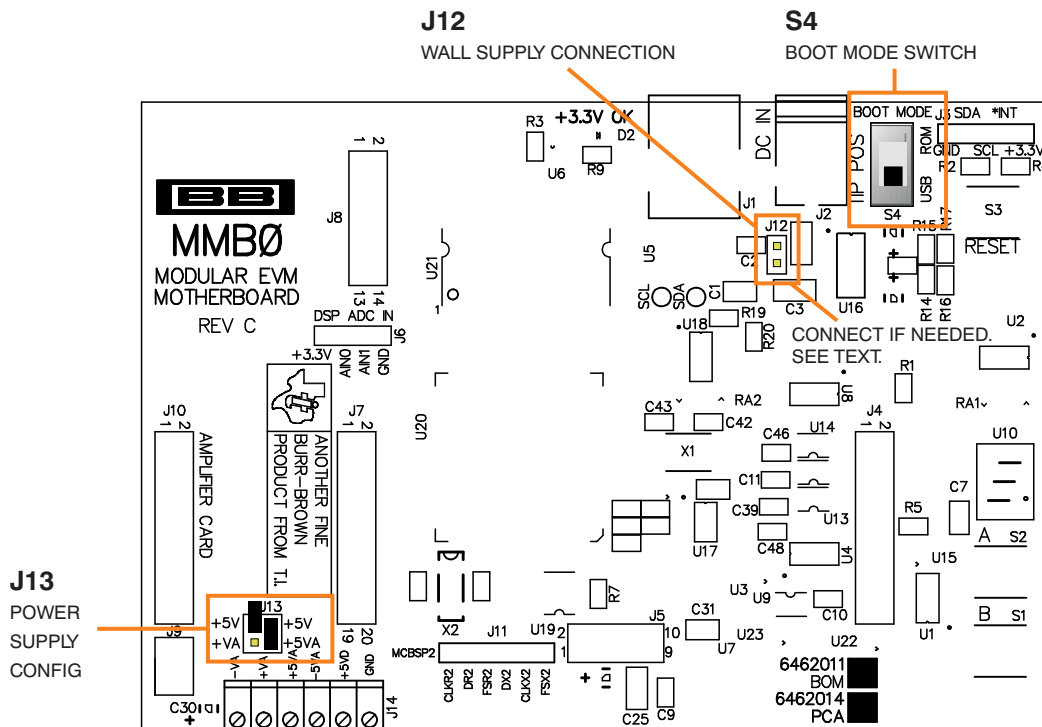

Figure 4. MMB0 Initial Setup
- Step 2. Set the jumpers and switches on the MMB0 as shown in Figure 4: